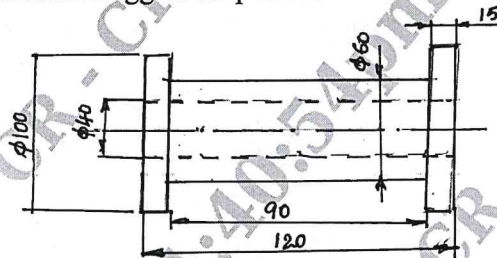

Fig.Q7(b)
- b. A foundry company engaged in production of flanged bush made out of cast iron as shown in Fig.Q7(b) in small quantities. Suggest the possible alternatives of mould for casting.